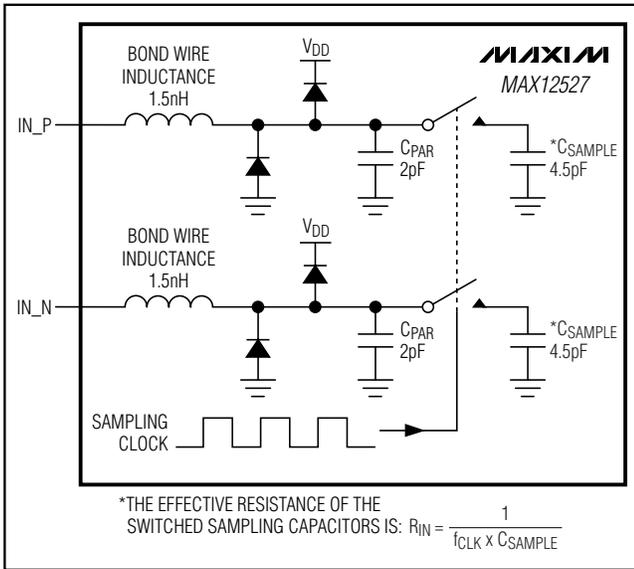
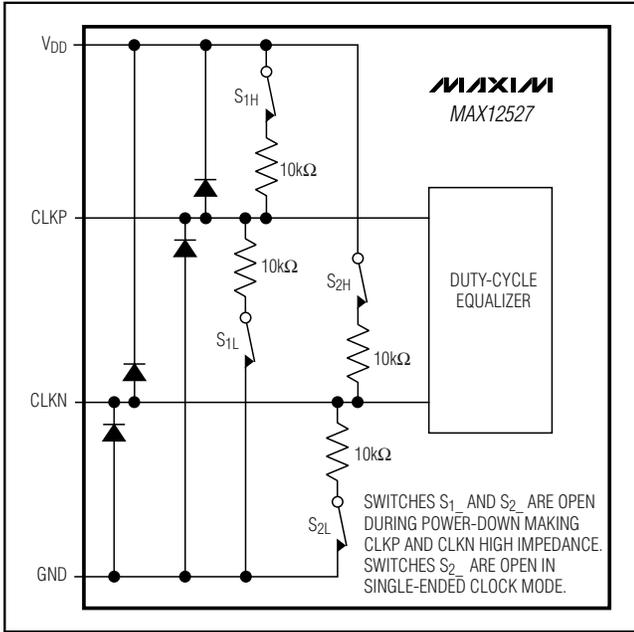

Figure 3. Internal T/H Circuit
Figure 4. Simplified Clock Input Circuit
Figure 3 displays a simplified functional diagram of the input T/H circuit. This input T/H circuit allows for high analog input frequencies of 175MHz and beyond and supports a $V_{DD} / 2$ common-mode input voltage.
The MAX12527 sampling clock controls the switched-capacitor input T/H architecture (Figure 3) allowing the analog input signals to be stored as charge on the sampling capacitors. These switches are closed (track mode) when the sampling clock is high and open (hold mode) when the sampling clock is low (Figure 4). The analog input signal source must be able to provide the dynamic currents necessary to charge and discharge the sampling capacitors. To avoid signal degradation, these capacitors must be charged to one-half LSB accuracy within one-half of a clock cycle. The analog input of the MAX12527 supports differential or single-ended input drive. For optimum performance with differential inputs, balance the input impedance of IN_P and IN_N and set the common-mode voltage to mid-supply ($V_{DD} / 2$). The MAX12527 provides the optimum common-mode voltage of $V_{DD} / 2$ through the COM output when operating in internal reference mode and buffered external reference mode. This COM output voltage can be used to bias the input network as shown in Figures 9, 10, and 11.
The MAX12527 accepts both differential and single-ended clock inputs with a wide 25% to 75% input clock duty cycle. For single-ended clock input operation, connect DIFFCLK/SECLK and CLKN to GND. Apply an external single-ended clock signal to CLKP. To reduce clock jitter, the external single-ended clock must have sharp falling edges. For differential clock input operation, connect DIFFCLK/SECLK to OV_{DD}. Apply an external differential clock signal to CLKP and CLKN. Consider the clock input as an analog input and route it away from any other analog inputs and digital signal lines. CLKP and CLKN enter high impedance when the MAX12527 is powered down (Figure 4).
- 1) INAP/B, INAN/B analog inputs are disconnected from the internal input amplifier (Figure 3).
- 6) CLKP, CLKN clock inputs enter a high-impedance state (Figure 4).